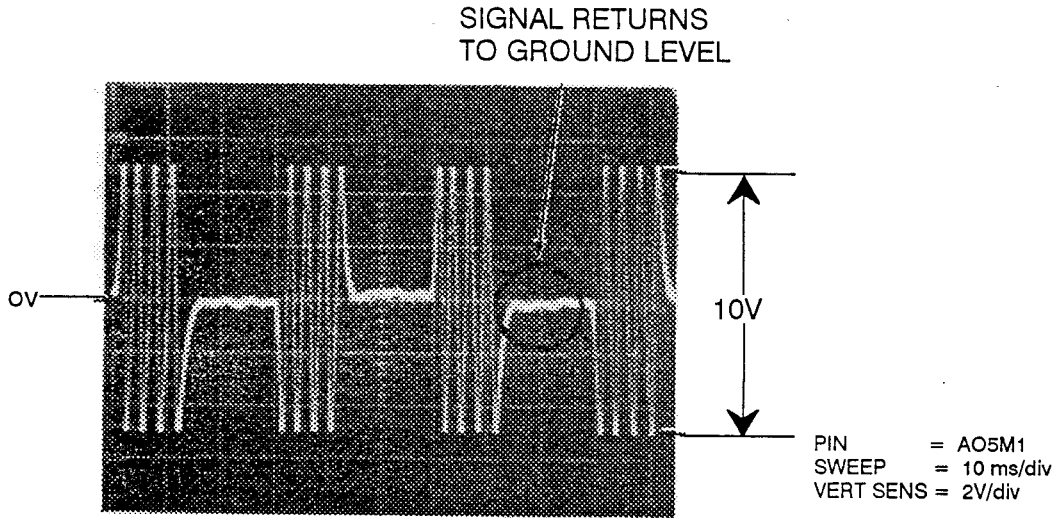

FIGURE 4.1
- 4.2.5 Sine Amplitude (SA) and Offset (SO) Figure 4.1 & 4.2.
2. Observe A05M1 (SINE POSITION) for a scope display similar to that shown in Figure 4.1. The waveform amplitude must be 10 Vdc \pm 1 volt peak to peak and symmetrical about ground.
- 4.2.6 Velocity Offset (VO) Figure 4.1 & 4.2
1. Observe that the voltage minimums at A05M1 (SINE POSITION) are symmetrical about ground Figure 4.1 & 4.2. A small amount of ripple at the minimum voltage levels is normal.